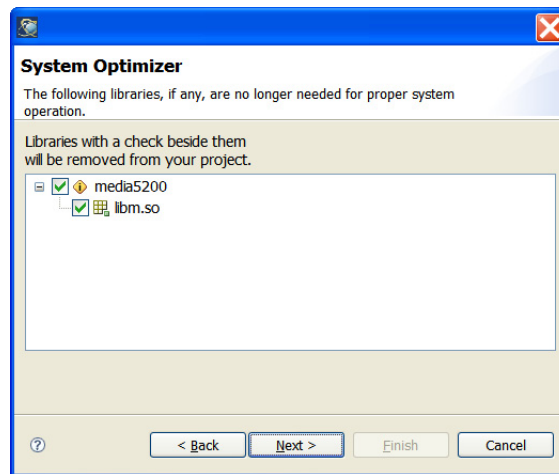
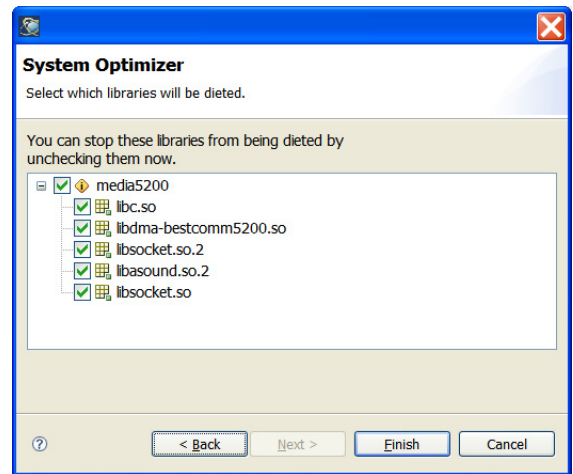

Figure 2 — Using the system optimizer to remove unused libraries.
Figure 3 — Using the system optimizer to remove functions from libraries.
- **Use the system optimizer to remove unreferenced libraries and functions** — In many cases, you can shrink the IFS significantly by using the system optimizer (aka dietician) in the QNX Momentics system builder. The system optimizer finds any nonreferenced libraries and removes them completely; see Figure 2. It can also remove functions from shared objects if those functions aren't referenced anywhere in the IFS; see Figure 3. The system optimizer will create special reduced versions of the shared objects that the IDE builds for the target. The IDE places these smaller libraries in the **Reductions** subfolder of your system builder project.
Despite these caveats, the system optimizer offers a very useful and relatively effortless way to shrink the IFS. The savings will directly translate into shorter boot times. See Table 3 for an example of how the actions chosen in figures 2 and 3 reduced the size of a typical IFS. This IFS contained the full set of files needed for the BSP, but no application code. Of course, your mileage will vary, depending on how fully the code in your IFS binaries utilizes functions within shared libraries. The more functions you call, the fewer objects can be removed, and the smaller the resultant savings.